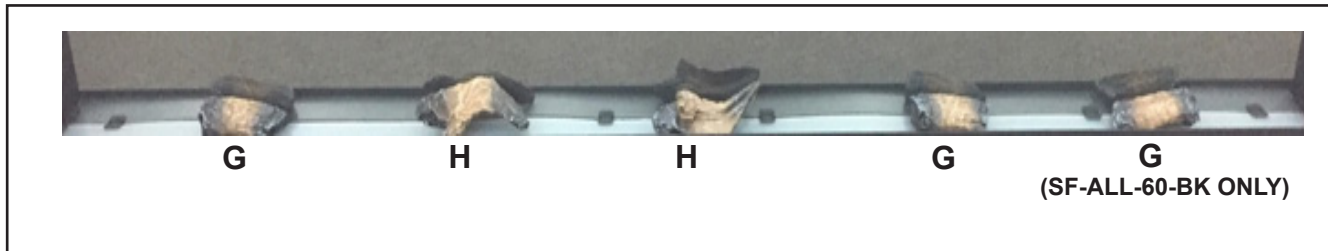

Figure 2. Place Small Logs
3. Place small logs G (3) and H (2) on the fuel bed as show in Figure 2 & 4.